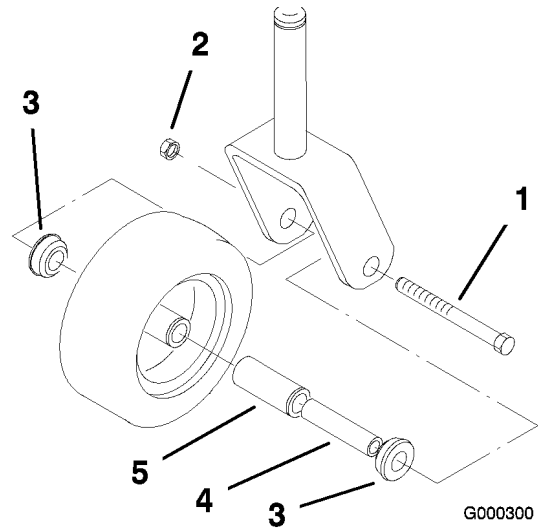

Figure 47
1. Remove the locknut and wheel bolt holding the caster wheel to the caster fork (Figure 47).
2. Remove one bushing, then pull the spanner bushing and roller bearing out of the wheel hub (Figure 47).
3. Remove the other bushing from the wheel hub and clean any grease and dirt from the wheel hub (Figure 47).
4. Inspect the roller bearing, bushings, spanner bushing and inside of the wheel hub for wear. Replace any defective or worn parts (Figure 47).
5. To assemble, place one bushing into the wheel hub. Grease the roller bearing and spanner bushing and slide them into the wheel hub. Place the second bushing into the wheel hub (Figure 47).
6. Install the caster wheel into the caster fork and secure with the wheel bolt and locknut. Tighten the locknut until the spanner bushing bottoms against the inside of the caster forks (Figure 47).